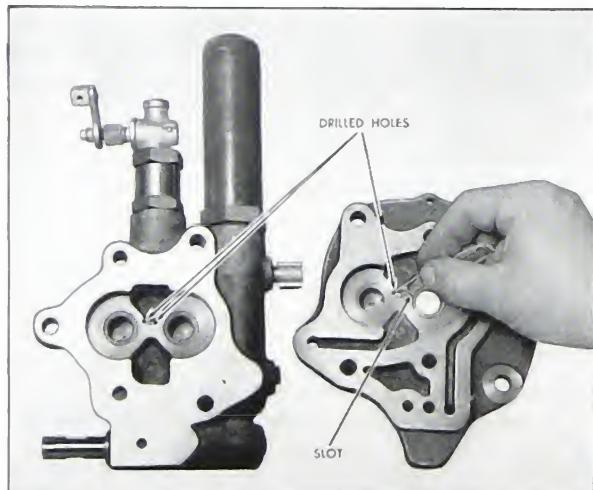

Fig. 5-84. Drilled holes for lubrication
Lubricating Holes: 1. With a small wire or punch, clean out the small lubricating holes to both sets of gear pockets in the Number 1 and Number 2 gear bodies. These holes not only supply lubrication to the shafts and gears, but also provide balanced pressure against the gears in their pockets to prevent scoring. See Fig. 5-84.
2. If old bodies do not have these drilled holes, drill them $1/16 \times 45^\circ$, to break out at the bottom of the shaft holes. Also use a cape chisel to cut a slot from the pressure relief pocket to the drive shaft hole in No. 1 body as shown in Fig. 5-84 and as machined in late style housings.